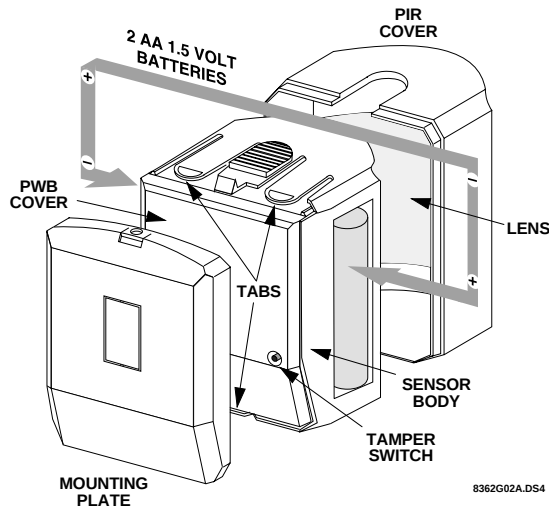

Figure 18. PIR Components, Battery Locations, & Tamper Switch
2. Remove the cover by depressing the two tabs on the top and the one tab on the bottom of the sensor body and sliding the cover off (see Figure 18.).
tery compartment, on the left side the positive side is down and on the right side the positive end is up. When the battery is replaced, wait at least 3 minutes after installing the battery before activating the walk test mode. See Figure 18. for battery locations.